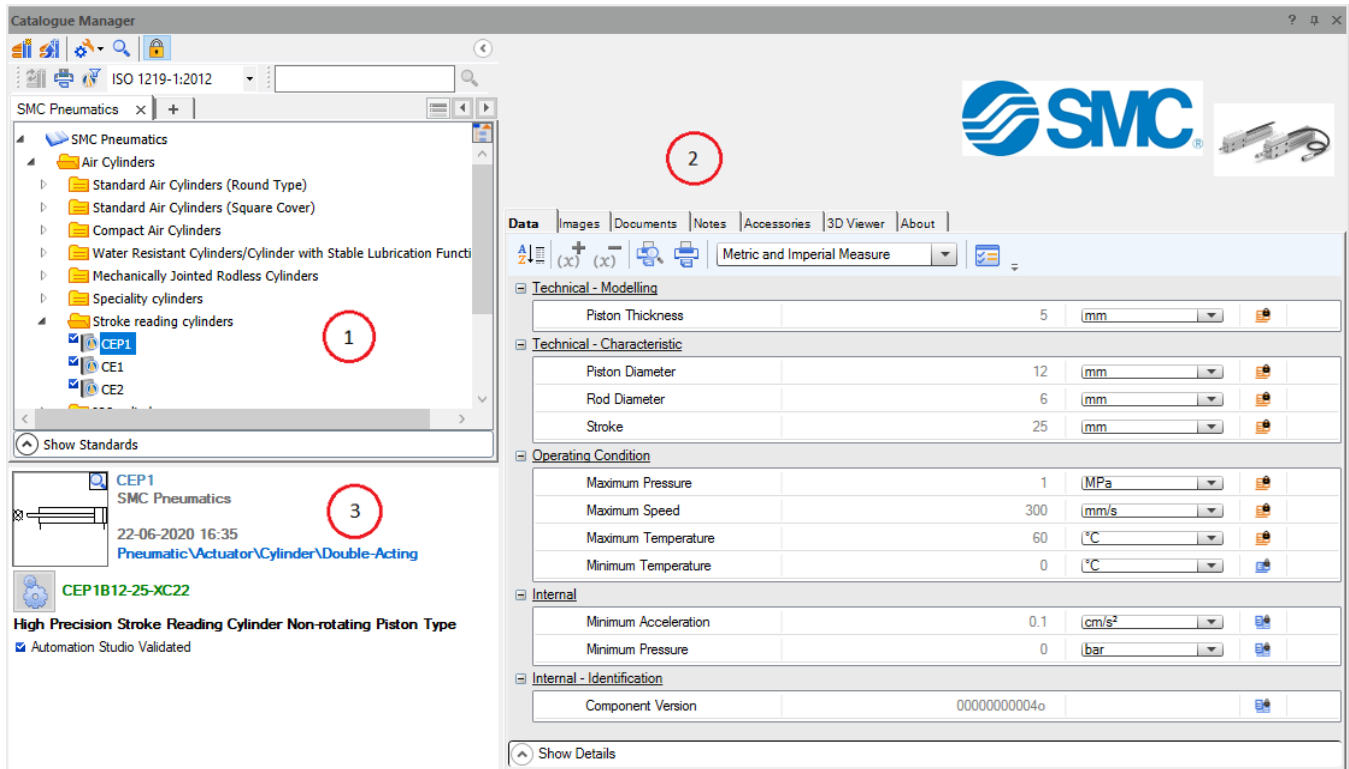
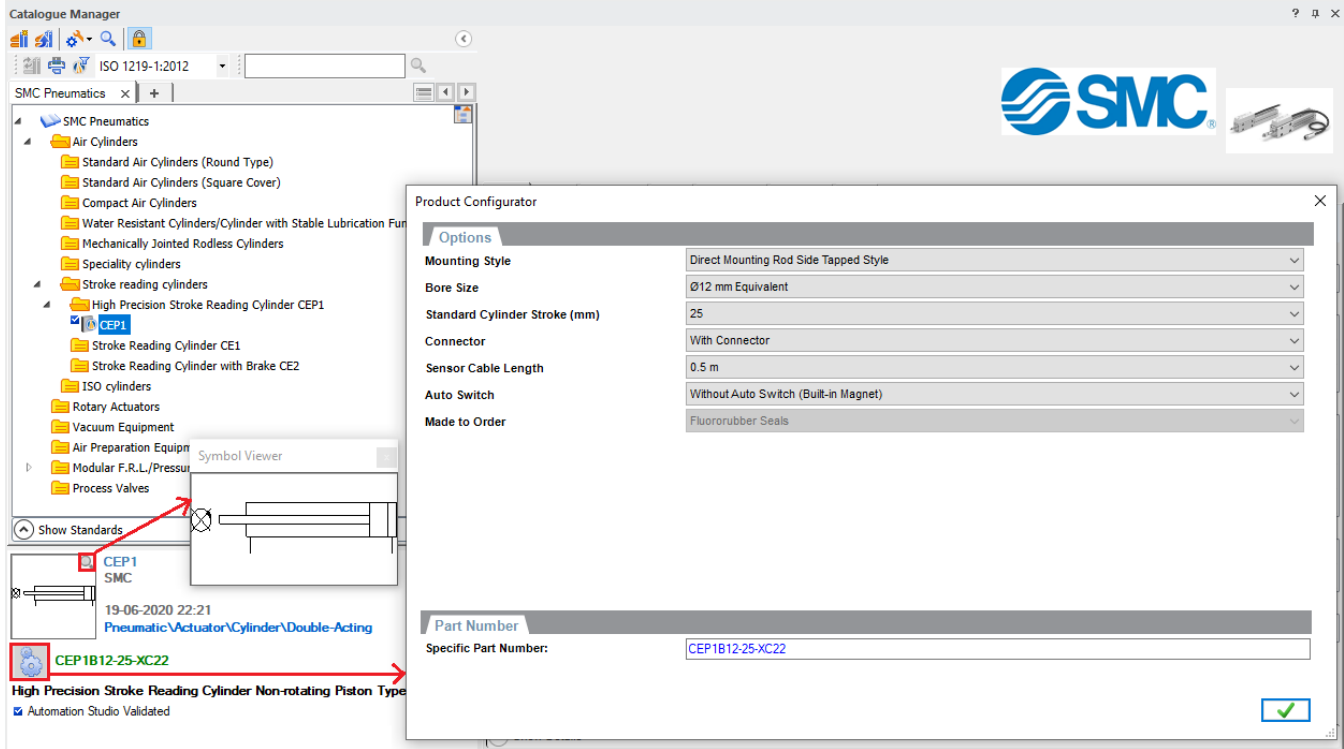

Figure 1: Catalogue Manager Window Displaying Technical Data and Symbol of the Selected Cylinder (Stroke Reading Cylinder CEP1)
Figure 2: Configuring a Part Number of a Stroke Reading Cylinder CEP1 Using the Catalogue Manager’s Product Configurator Window.
The **Catalogue Manager** of **Automation Studio™** consists of three sections as shown in Figure 1. The first section (1) contains a catalogue tree similar to the manufacturer’s website where a user can easily find a component as per the requirements. In the catalogue tree, components have been categorised as per their types and functions. The second section (2) consists of different tabs where the user can get information like technical data, images or 3D CAD files of the selected component. The “Documents” tab of this section contains test files and the manufacturer’s technical specifications of the product. Section (3) shows a “Set Specific Part Number” function button which opens the “Product Configurator” window as shown in Figure 2.
Using the “Product Configurator”, the user can easily select specific product characteristics and configure the manufacturer’s specific part number of the component. The options to choose the desired mounting style, cylinder bore, stroke and more are available. The product information, technical data and symbol get updated with the selected options. The “Symbol Viewer” button (refer to Figure 2) allows the user to magnify the view of the configured component’s symbol. All these Catalogue Manager features were designed to enable the user to easily choose and configure pre-modelled components.